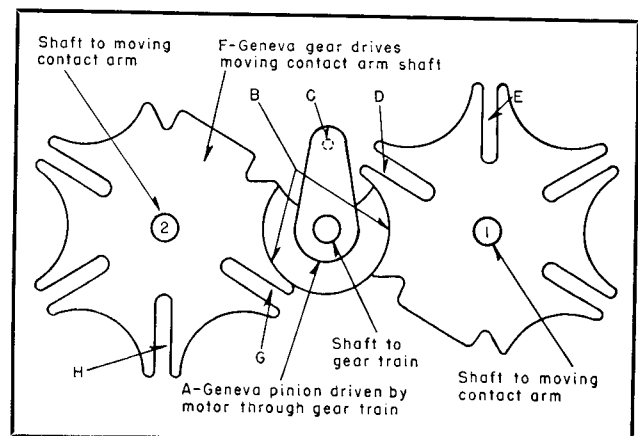

FIG. 4. Schematic Operation of Tap Changer Driving Mechanism.
The schematic operation of the tap changer driving mechanism is shown in Fig. 4. Geneva pinion (A) is positively geared to the operating motor. Geneva gears (F) drive the moving contact arm shafts and are always locked at points (B), except when pin (C) enters one of the slots as (D). When pin (C) engages slot (D), the Geneva gear shaft (1) is turned one notch so that slot (E) is in the position just previously occupied by slot (D). This motion moves one of the contact arms to the next